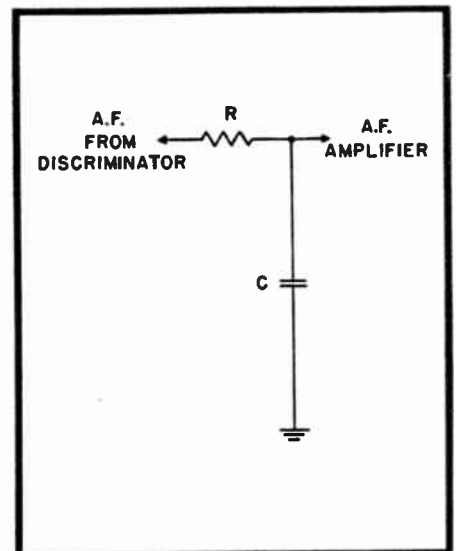

Fig. 6 A low-pass filter.
2. *Size of the Antenna for Resonance.* Because of the great length of A.M. broadcast waves a resonant antenna would have to be from 300 to 750 feet long (half wave dipole). Naturally this is impractical. However, many broadcast receivers use a "folded-up" resonant antenna known as a *loop antenna*. A loop antenna of this kind is simply the result of "blowing up" the tuned grid coil of the RF or mixer (first) stage. Often an unshielded antenna coil of standard size provides enough pickup to give good reception on the A.M. broadcast band. This explains why some A.M. receivers work without any external antenna or loop. The internal loop can intercept more wave front and thus improve reception. (See Fig. 6).